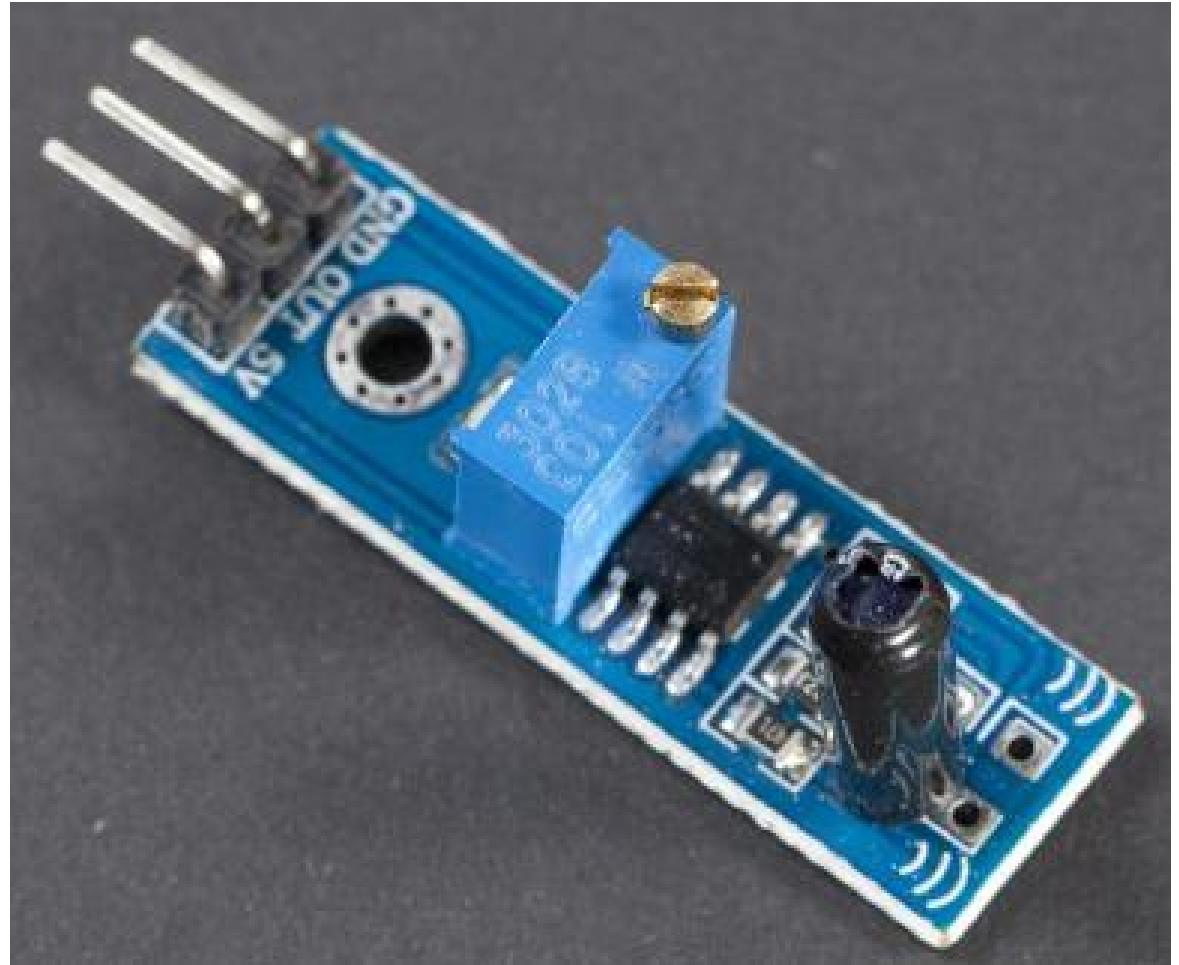

Figure 6-4. Vibration sensor
- A vibration sensor can detect tiny vibrations, like the ground shaking (Figure 6-4).